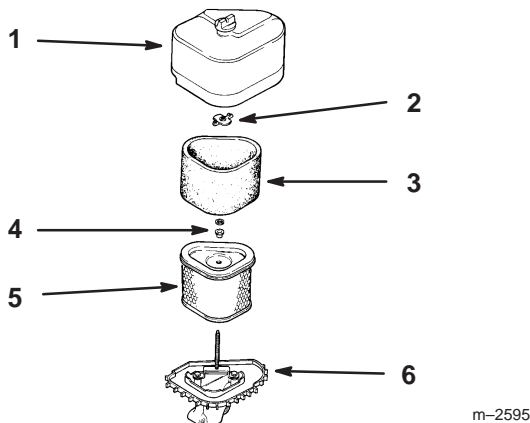

Figure 27
2. Clean around the air cleaner to prevent dirt from getting into the engine and causing damage. Unscrew the cover nut and remove the air cleaner cover (Fig. 27).
3. Remove the air cleaner assembly (Fig. 27).
4. Carefully slide the foam element off the paper element (Fig. 27).
1. Carefully slide the foam element onto the paper air cleaner element (Fig. 27).
2. Place the air cleaner assembly onto the air cleaner base (Fig. 27).